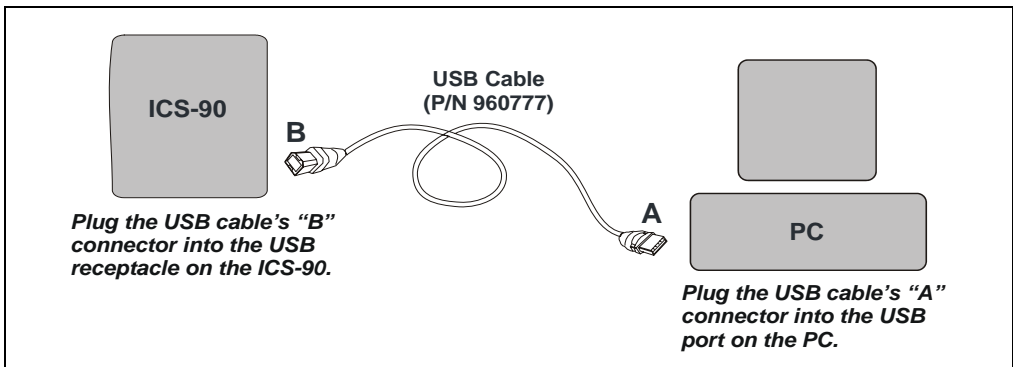

Figure B-6. Example Connections: One ICS-90 Connected to the Computer
2. Plug the “A” connector of the USB cable into the USB port on the PC (see Figure B-6).
3. Plug the “B” connector of the USB cable into the USB receptacle on the ICS-90 rear panel (see Figure B-6).